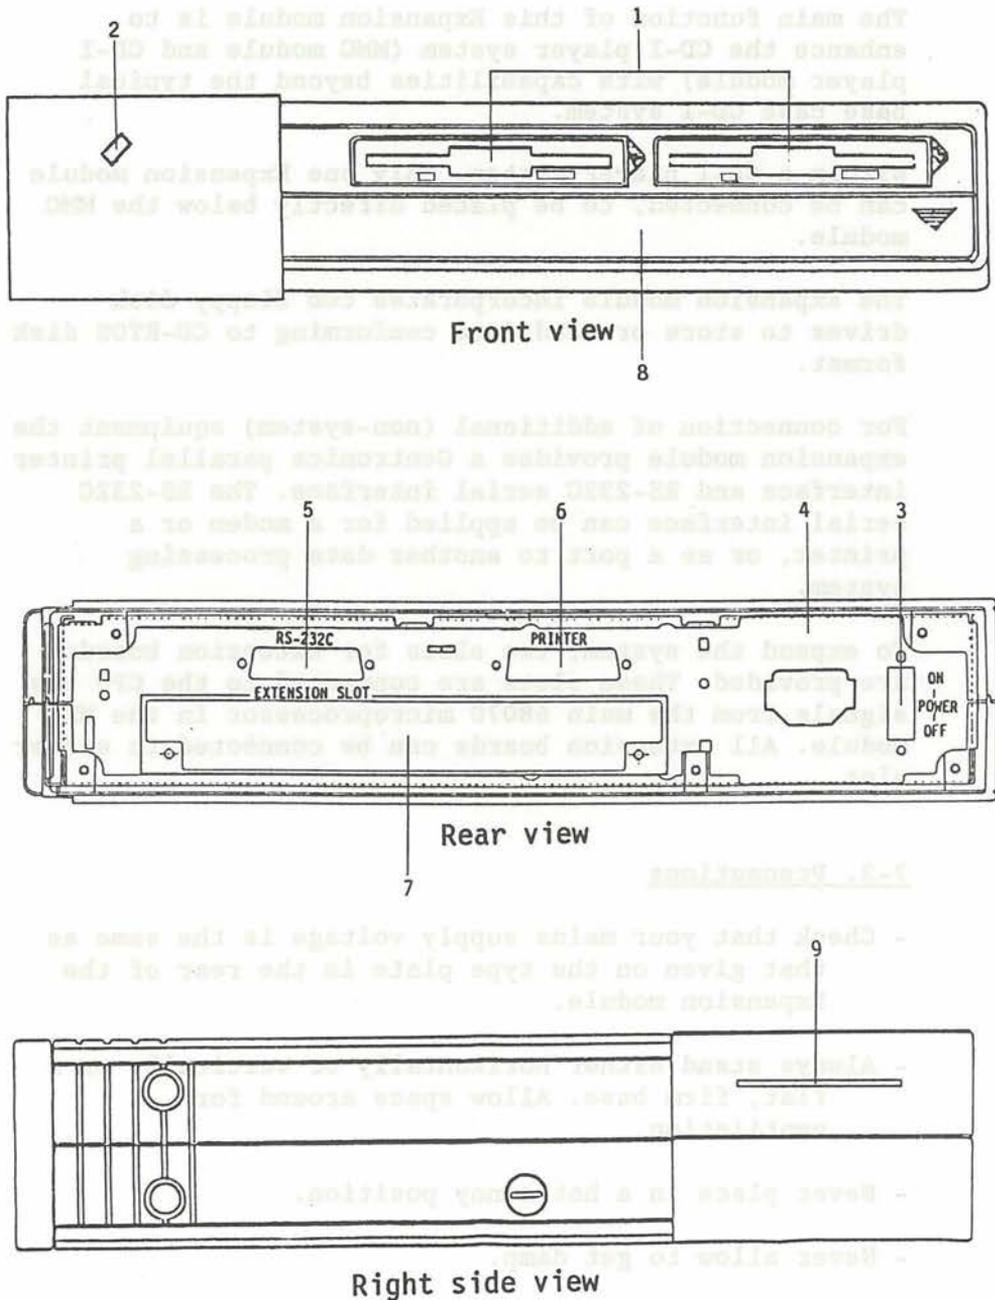

Fig. 7-1.
2. Connections and controls are shown in Fig. 7-1.